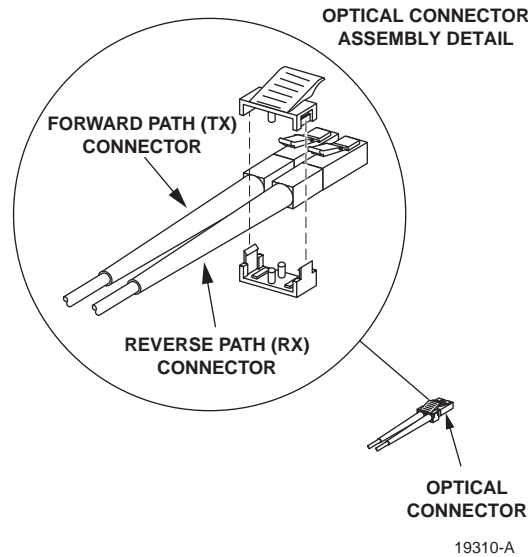

Figure 4. Terminate Optical Fiber
3. Terminate each optical fiber with a field-installable LC type fiber optic connector as shown in Figure 4. Follow the instructions provided by the connector manufacturer for installing the connector.
6. Use the plastic joiner provided with the LC connectors to join the WBDR PCIx Host card forward and reverse path connectors together (see Figure 4). Make sure the forward path and reverse path connectors are oriented as shown.